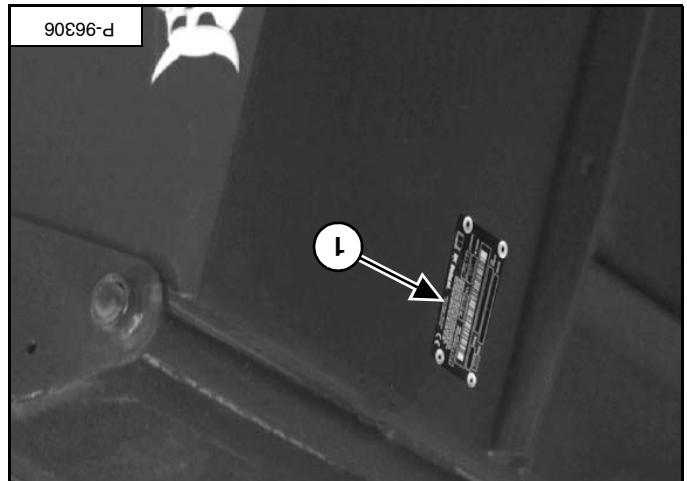

Figure 1
The serial number plate (item 1) [Figure 1] is located at the front of the frame. The delivery report must be reviewed and signed by the owner or operator and the dealer.